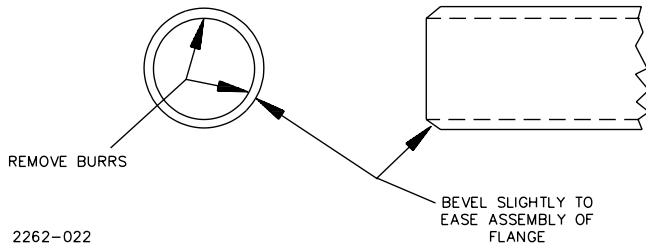

Figure 2-15.
- The line should be free of burrs. The outer corner may be beveled slightly to make assembly of flange easier. See Figure 2-15.